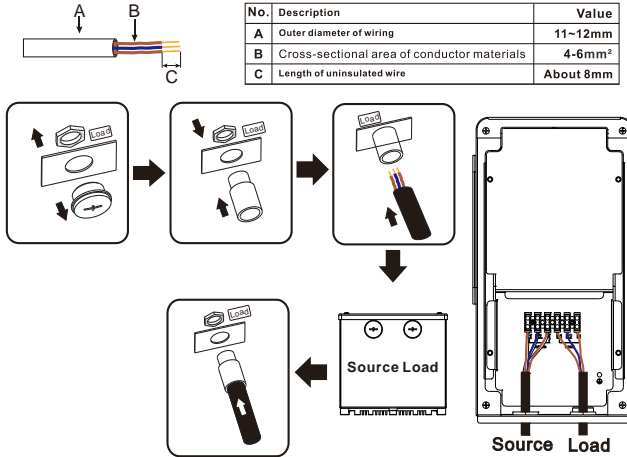

Fig.6-8 Auto-transformer wiring
- Step 2:** Strip the wire insulating material as shown in Fig.6-8